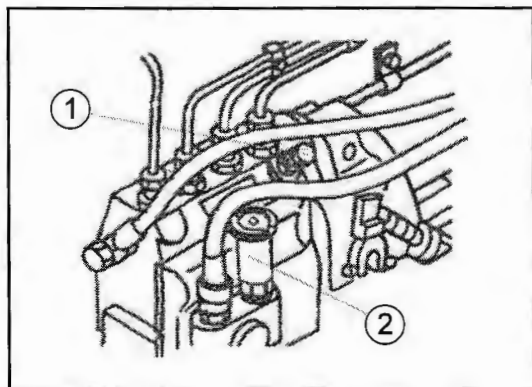

Fig. 41-1 - Bleeding Fuel System
- Loosen air vent plug (1) on the injection pump (by turning it 1 1/2 times).
- Unlock priming plunger (2) by turning it to the left and operate the pump (just turn the ignition to the **ON** position).
- When the fuel flows free of bubbles, lock the priming pump plunger and then tighten the air vent plug. (See Fig. 41-1).